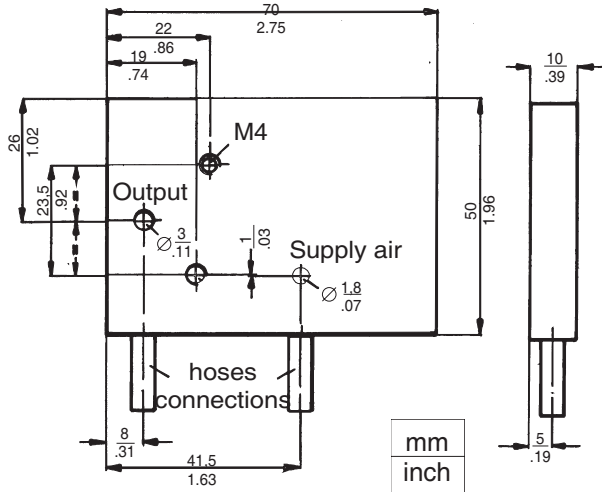
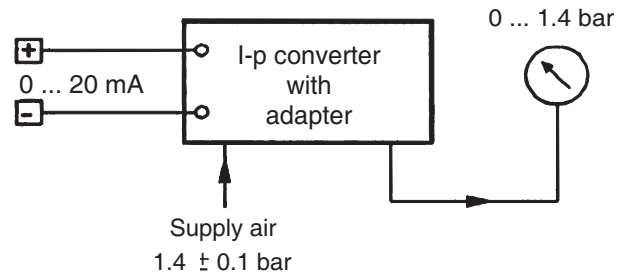

Fig. 26: Test adapter for I-p converter
Fig. 27: Test circuit for I-p converter
An adapter is required for checking and adjusting the I-p converter which can be done by yourself as shown in Fig. 26.
- a) Connect the I-p converter to the adapter, Fig. 26 and wire as shown in Fig. 27.